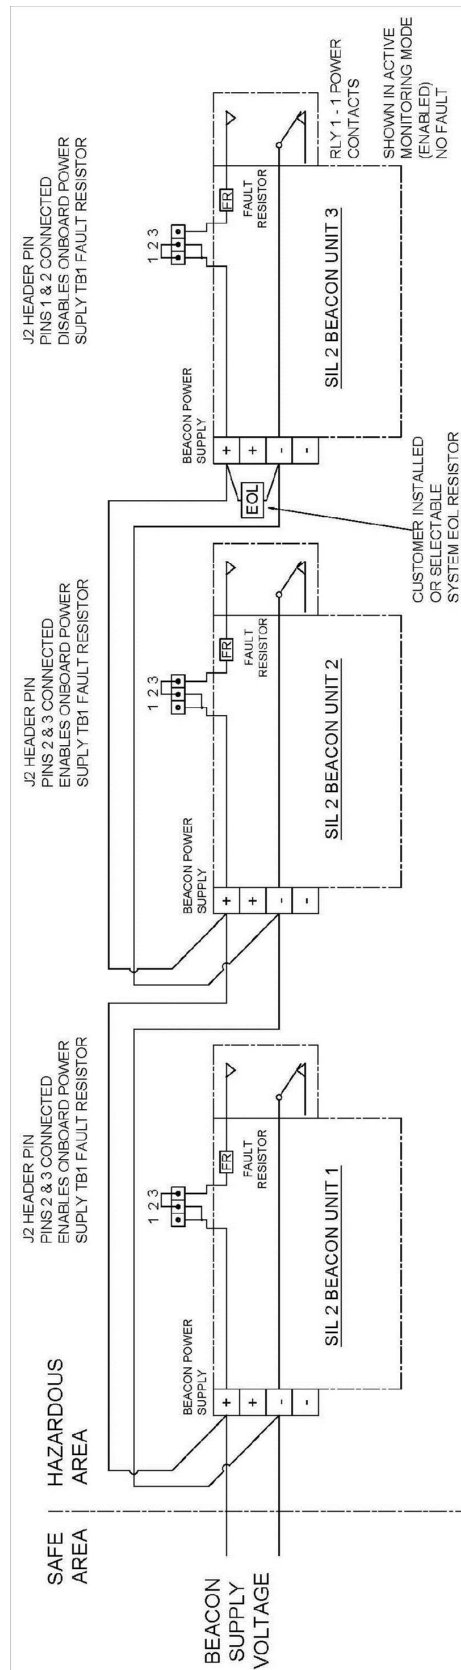

Figure 13: Schematic of SIL 2 system wiring for fault detection in standby mode only – 2 wire installation configuration wired in series
- A series topology is when each unit is connected to one another as shown in figure 13.